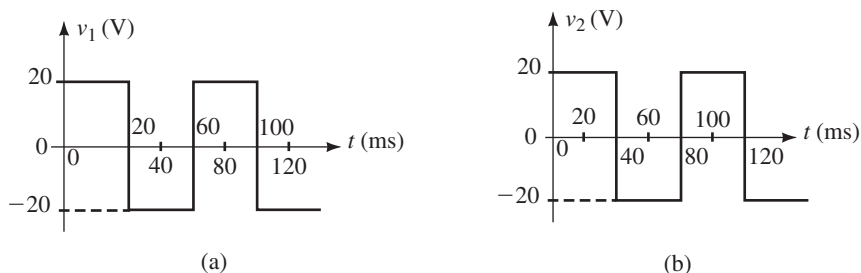

FIGURE 25–59
15. A composite waveform is made up of the two periodic waves shown in Figure 25–60.